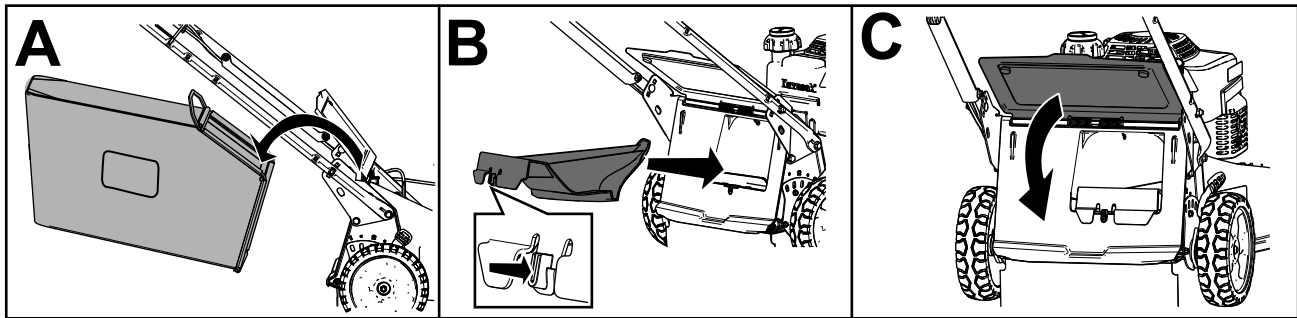

Figure 15
- If the grass bag is on the machine, remove it (A of Figure 15).
- If the rear-discharge plug is not installed, grip it by the handle, raise the rear deflector, and insert it into the rear-discharge chute until the latch locks into place (B of Figure 15).
3. Remove the bag rod on the grass bag from the notches at the base of the handle (A of Figure 15).
4. Install the discharge plug (B of Figure 15).
5. Lower the rear deflector (C of Figure 15).